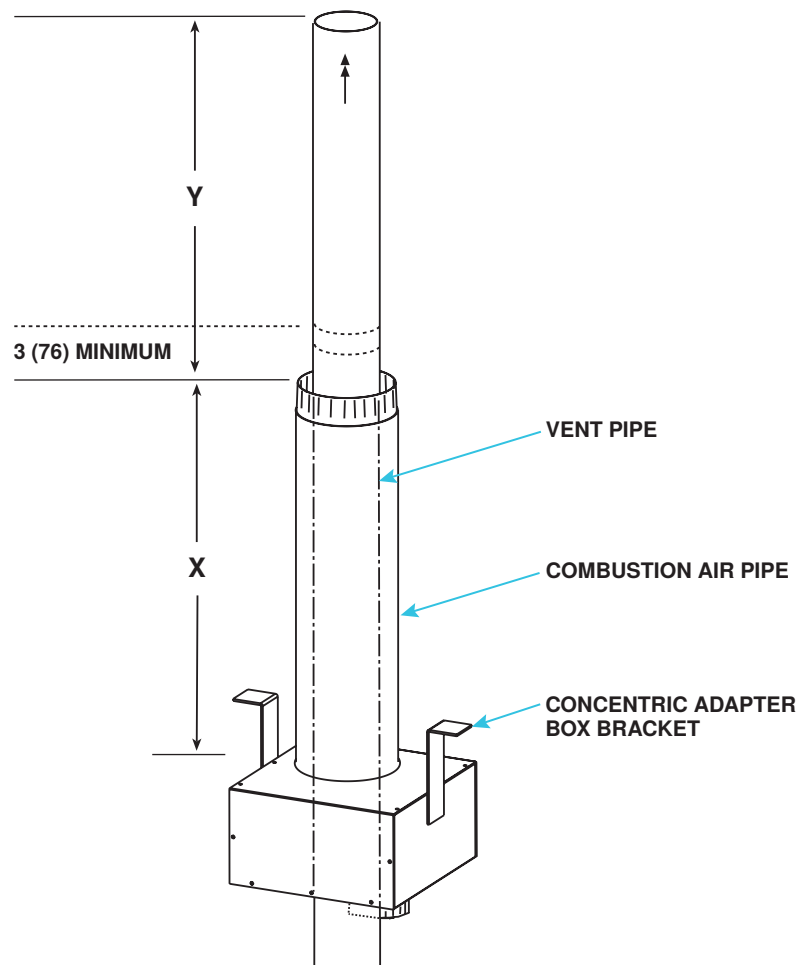

Figure 20. Combustion Air Pipe Installation
5. Connect outside section of combustion air pipe to concentric adapter box (see Figure 20):
- a. Refer to Figure 20 to determine length of dimension X as follows:
- (1) Bracket length
- (2) Plus roof thickness
- (3) Plus anticipated snow depth
- b. Second section of double-wall pipe (see dimension Y in Figure 20) may be connected as needed to continuous section of vent pipe. Ensure that connection is minimum of 3 inches (76 mm) above combustion air pipe and that height is 12 inches (305 mm) minimum—34 inches (864 mm) in cold climates where design ambient temperature is -10°F (-23°C) or lower.
6. Secure concentric adapter box to underside of roof (see Figure 20):
- a. Refer to **Figure 20** to determine lengths of each pipe segment and to calculate total length required. Determine length by adding requirements:
- (1) Starting at bottom, vent pipe can extend maximum of 6 inches (152 mm) below box
- (2) Plus 6 inches (152 mm) through box
- (3) Plus length of brackets above box
- (4) Plus width of roof
- (5) Plus height of outside combustion air pipe above roof
- (6) Plus minimum of 3 inches (76 mm) beyond top of inlet air pipe
- (7) Total is minimum length of vent pipe section—if actual piece of vent pipe is longer, extend it farther above combustion air pipe—do not extend it more than 6 inches (152 mm) below box